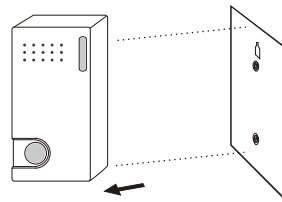
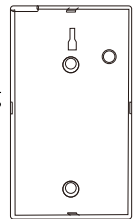

Figure 3
Figure 4
- C. Drill the holes and fix the frame to the wall using the screws with countersunk heads supplied in the package. (Figure 3).
- D. Remove the battery cover at the back of the main unit shown in the figure. Here you see the code ID attached.(Figures 4) and insert the batteries between the battery clip. The MD-209R will generate an enrollment signal after the batteries are installed. Attach the main unit to the fixed mounting frame and the magnet to the movable part (door or window - see Figure 3). Locate the magnet not more than 6 mm